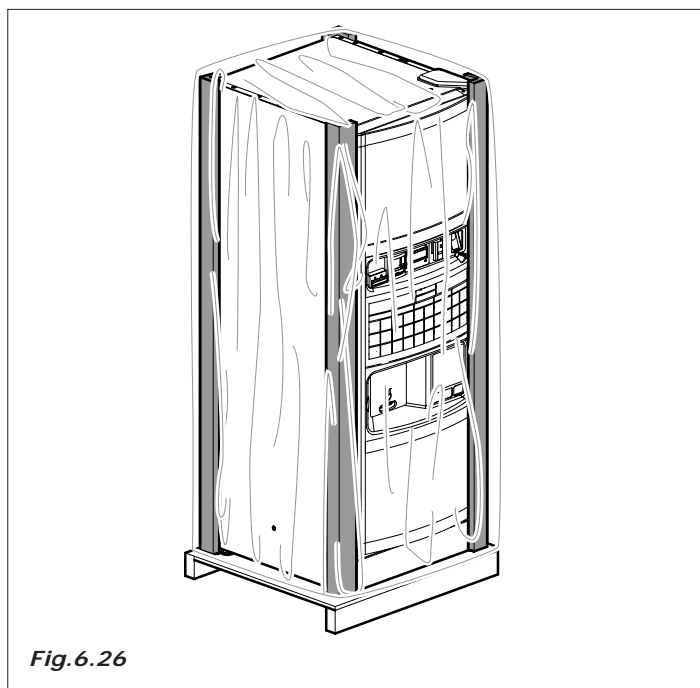

Fig.6.26
- protect the outside of the machine with a plastic film wrapping or bag (fig. 6.26)